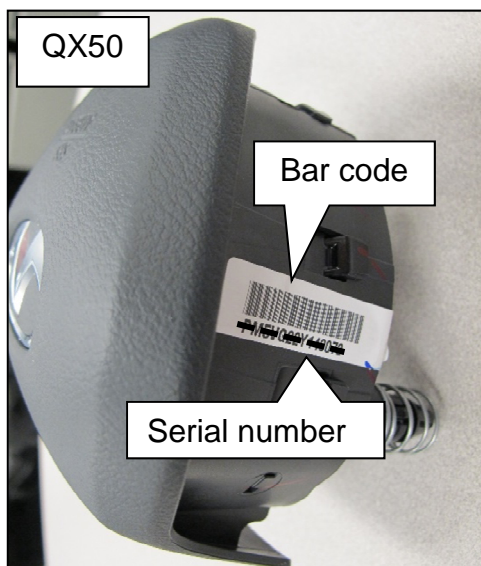
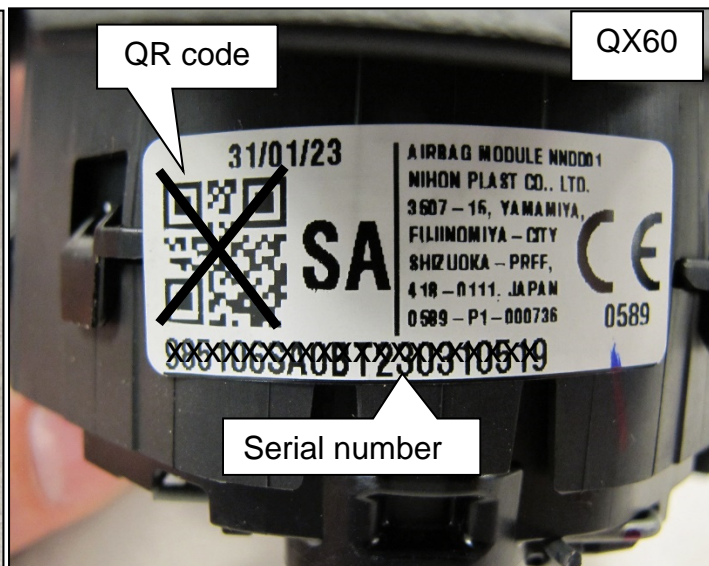

Figure 7
Figure 8
9. Use the Quick Scan Tool to scan the bar code (QX50 shown in Figure 7) or the QR code (QX60 shown in Figure 8) on the new driver air bag module.